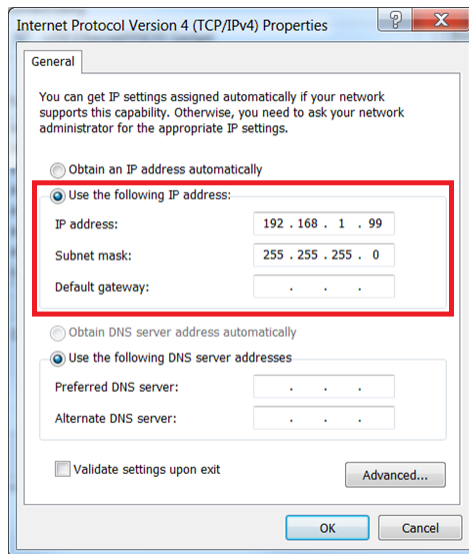

Figure 2-18. Windows 7 Local Area Connection TCP/IPv4 Properties
11. Enter the IPv4 address and subnet mask found from step 7. See Figure 2-18.